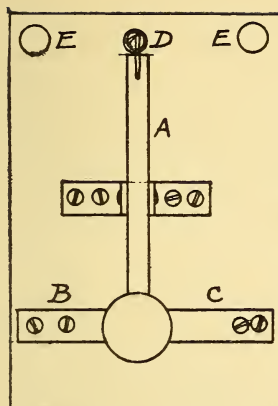

FIG. 28
The plan of a simple non-sparking dry switch is shown at Fig. 28. This is built up on a block three inches wide and five inches long. It consists of a bar (A), two spring interrupters (B and C), a spring (D), and the binding-posts (E E). They are arranged as shown in Fig. 28, and a front elevation